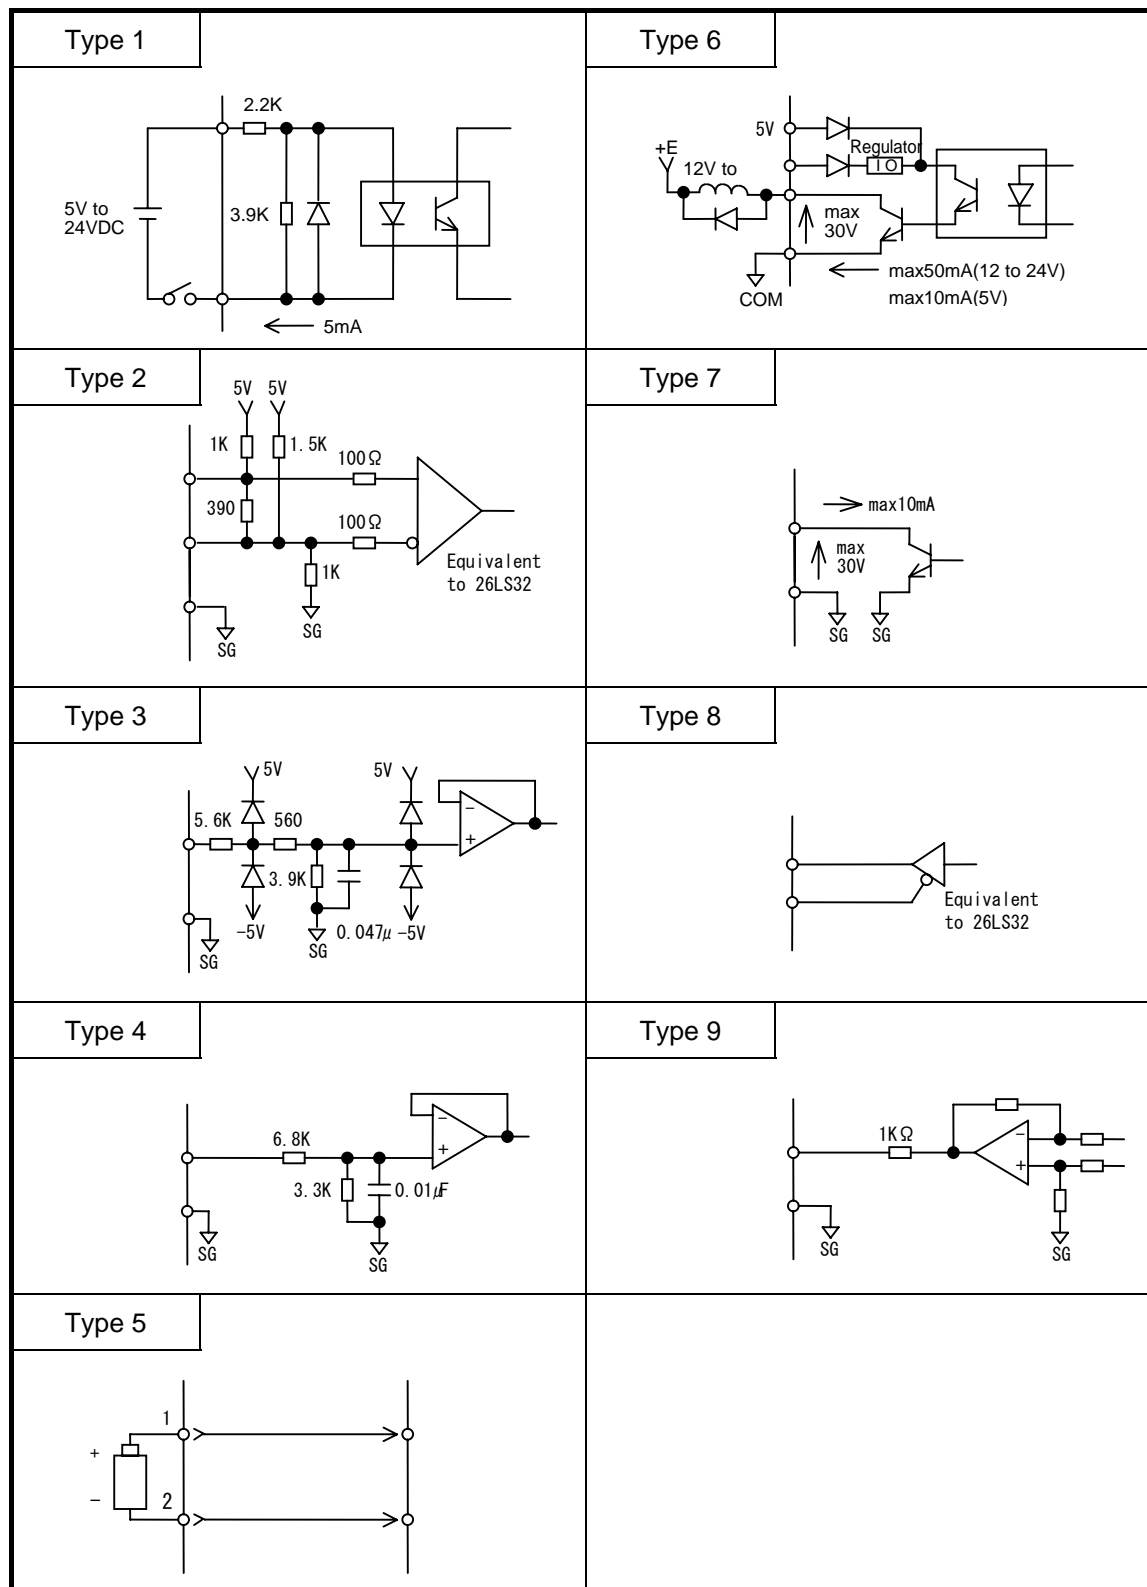

Fig. 9-13
This section explains the general specifications of CN1 input/output signals of the position control type. Fig. 9-13 shows the circuit types of CN1 input/output signals, and Tables 9-5 and 9-6 describe the general specifications.
* 2 For the circuit type, see Fig. 9-13.